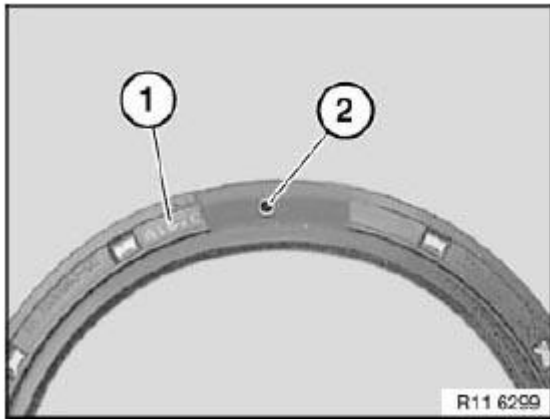

Fig. 81: Identifying Rubber Coating On Top Side Of Radial Seal
NOTE: If necessary, remove rubber coating (1) on top side of radial seal and expose a removal opening (2). See Fig. 81.